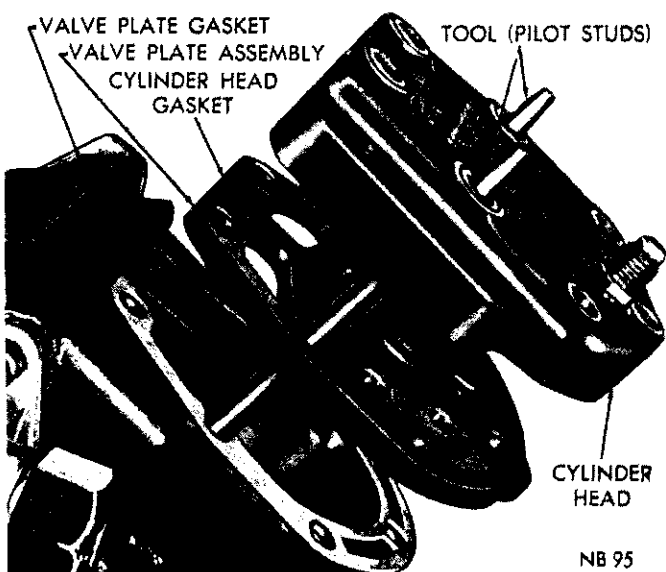

Fig. 10—Installing Valve Plate and Cylinder Head
- (2) Dip the gaskets in clean refrigerant oil. **Do Not Soak.** Using the pilot studs as a guide, install the valve plate gasket, valve plate, cylinder head gasket and cylinder head, (Fig. 10).
- (3) Install the attaching bolts. Tighten each bolt alternately and evenly to 18 to 24 foot-pounds (name plate bolts) and 20 to 26 foot-pounds on the remaining bolts.